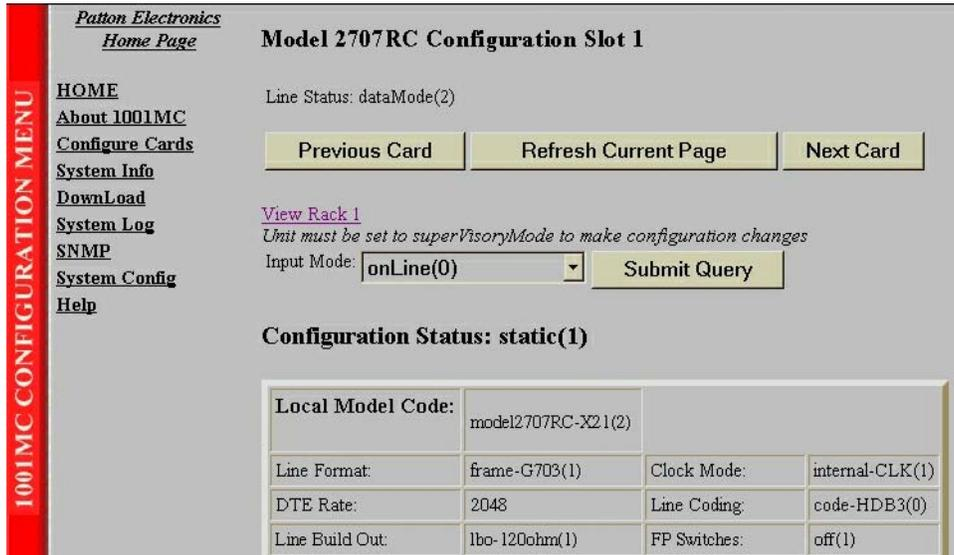
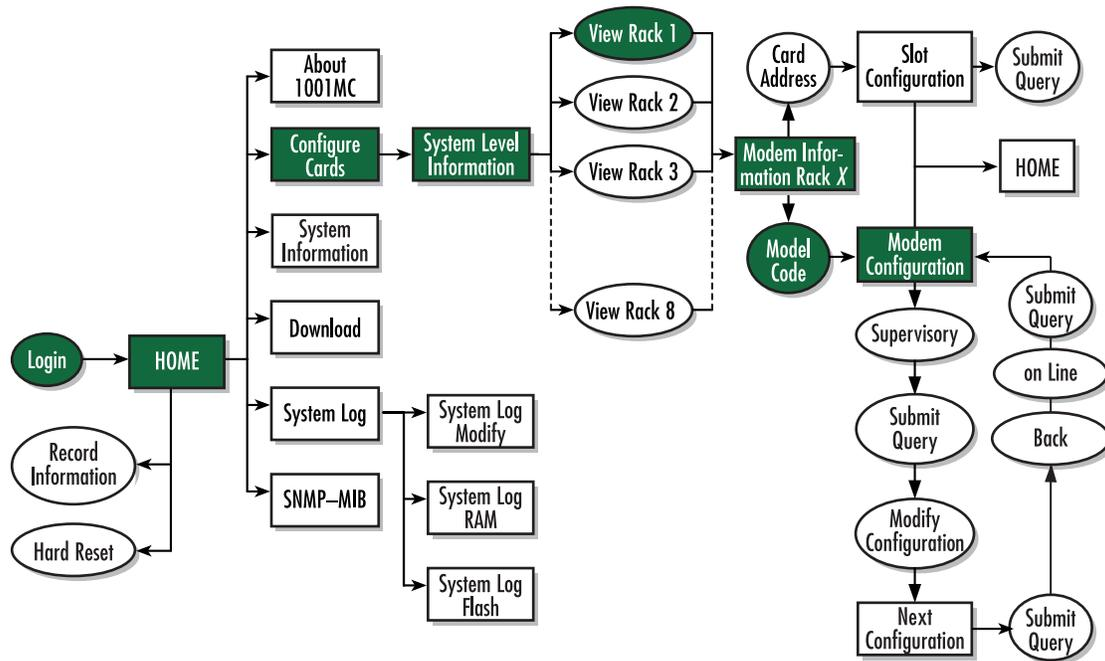

Figure 85. Model 2707RC Configuration Slot page
Figure 86. Web page navigation to Model 2707RC Configuration Slot page
The Model 2707RC Configuration Slot page (see figure 85) enables you to make configuration changes to the Model 2707RC and the remote NTU. When the page displays, the unit is set to the *onLine* state and the current configuration is displayed.
Starting from the HOME page, to access the Model 2707RC Configuration Slot page for the 2707RC, click on the following links: *Configure Cards > View Rack 1 > Local_Model_Code* for the 2707RC you wish to manage (in the example shown in figure 85, the 2707RC was installed in slot 1). Figure 86 on page 173 shows the web page navigation required to get to this area of the system.
1. With the Model 2707RC Configuration Slot page displayed, change the Input Mode (see figure 85) to superVisoryMode. The Modify Configuration hyperlink will appear.